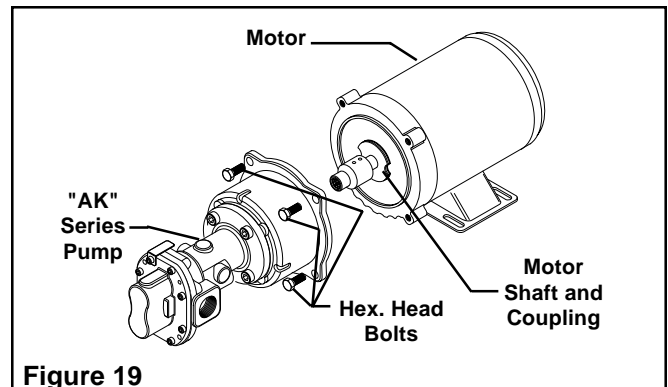

Figure 19
10. Lubricate the splines of the Coupling with Never-Seez® equivalent lubricant (See Figure 19).
11. Slide the "AK" Series Pump Shaft into the Coupling (See Figure 19).
12. Using the four Hex. Head Bolts, secure the "AK" Series Pump to the Motor; then, alternately and evenly tighten the four Hex. Head Bolts (See Figure 19).